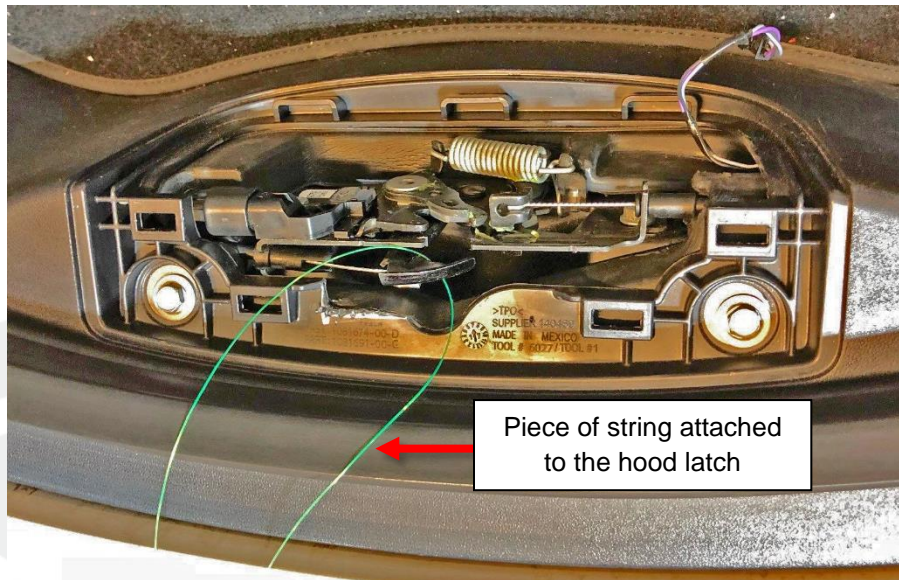

Figure 10
9. Cut a long piece of string or thin rope approximately 6 feet long, and then wrap it around the hood latch (Figure 10).